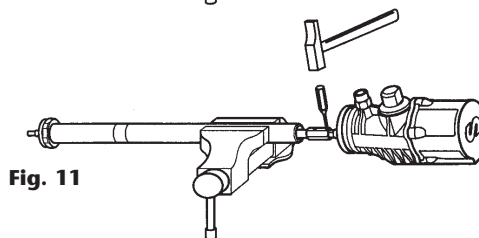

Fig. 11
5. Remove the pin (25) situated in the upper part of the union nut (fig. 11) and unscrew the air motor body from the suction tube assembly.